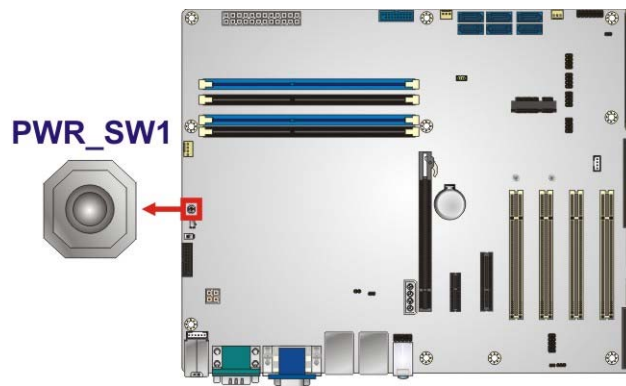

Figure 3-20: Power Button Location
**CN Location:** See Figure 3-20